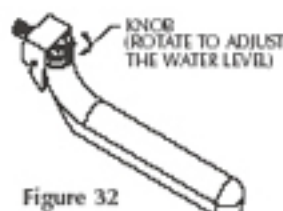

Figure 32
2. Rotate the knob of the valve seat (Fig. 32).